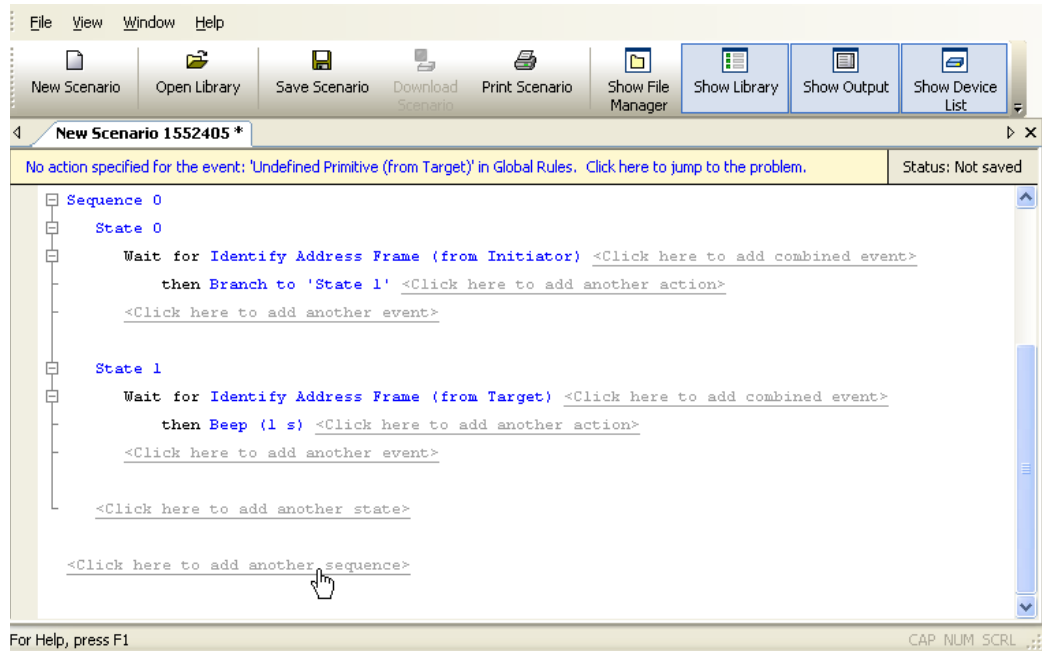

Figure 81 Example 7: Adding a Second Sequence
- Step 16** You are finished creating the first sequence. Click on the **add another sequence** prompt to create an area in the scenario for the second sequence (Sequence 1) (Figure 81).